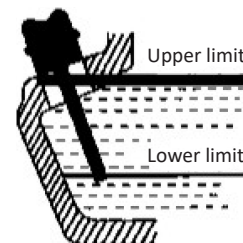

Fig. 3
**Warning: The oil level must always be at the upper limit. (Figure 3)**